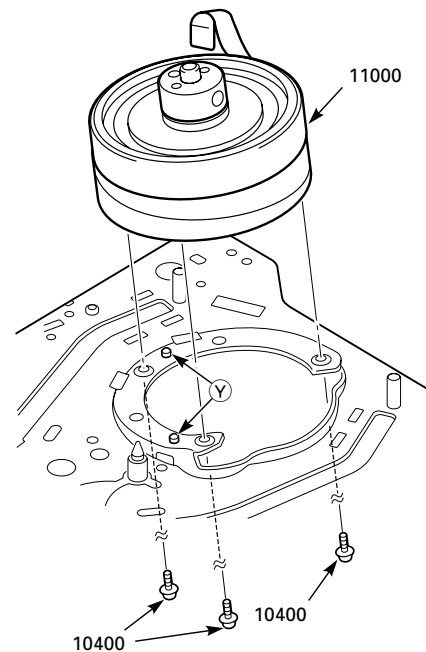

Fig. 8.38
- Undo the three screws (10400) at the bottom of the mechanism and take the complete tape drum (11000) out (Fig. 8.38).
Refitting: When refitting the tape drum (11000) align it to match with the two dowels **V** of the mounting base on the mechanism chassis (Fig. 8.38). Tighten the screws (10400) using a torque of 3.9 to 4.2kg/cm.